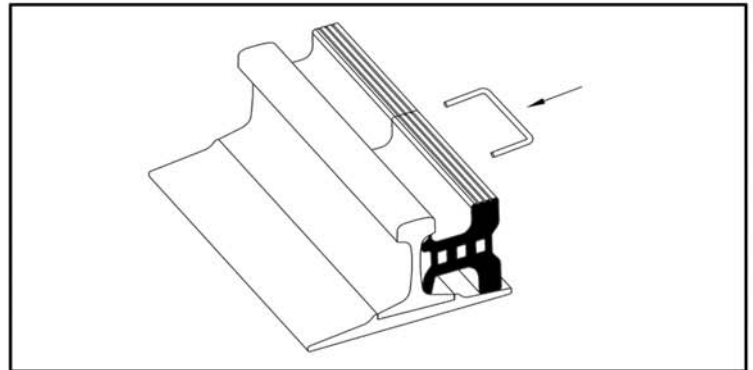

Figure 2
- 2** Fasten the Rubber Interface end to end with staples (Fig. 2)